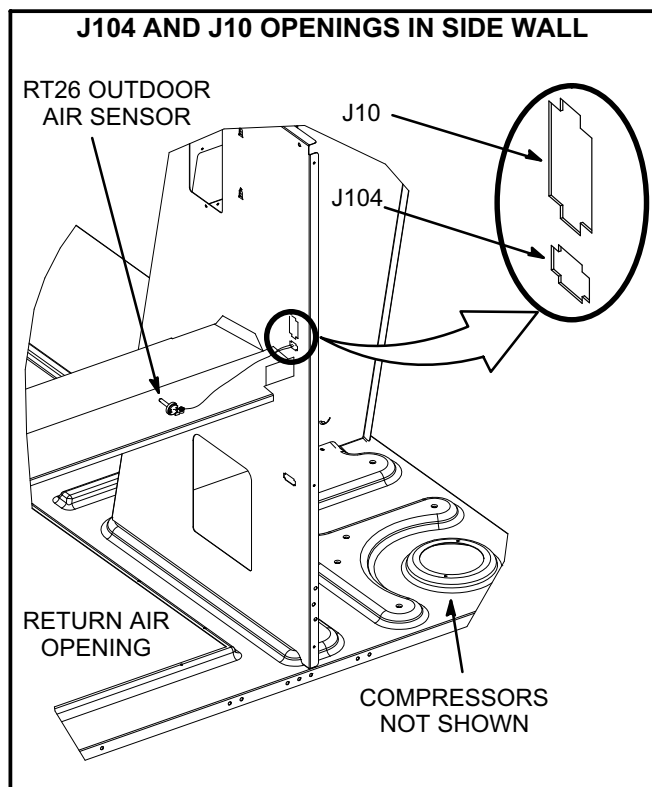

FIGURE 14
- 1- Mount sensor onto the economizer divider panel as shown in figure 14. Use #6 - 32 X 7/8" TFS screws provided.
- 5- Push J10 and J104 from economizer control harness into openings in side wall. See figure 14.